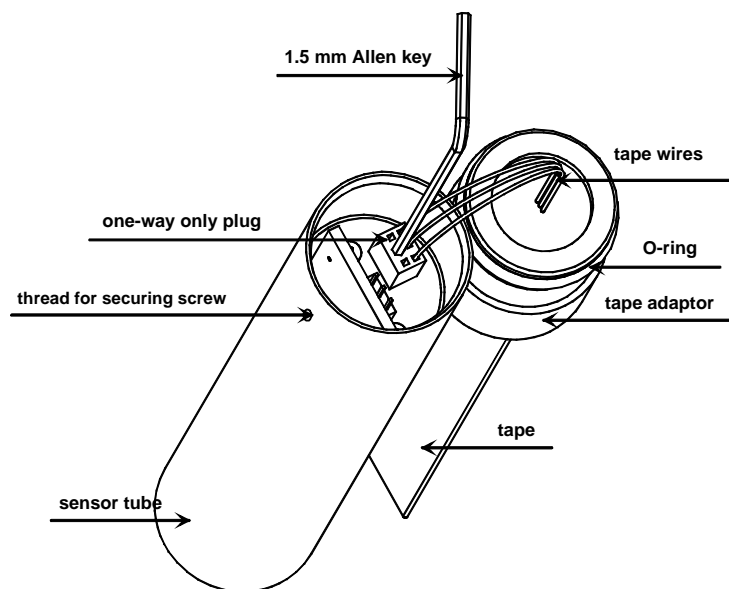

Figure 8-9
- Refer to Figure 8-9.
- With one hand keep the sensing probe and the tape adaptor as shown on Figure 8-9.
- With the other hand drive the plug into the new sensor tube with the 1.5 Allen key to connect it to the sensing probe socket. Note this is a one way only plug. The wires shall be on the opposite side of the electronic circuit print as shown on Figure 8-9.